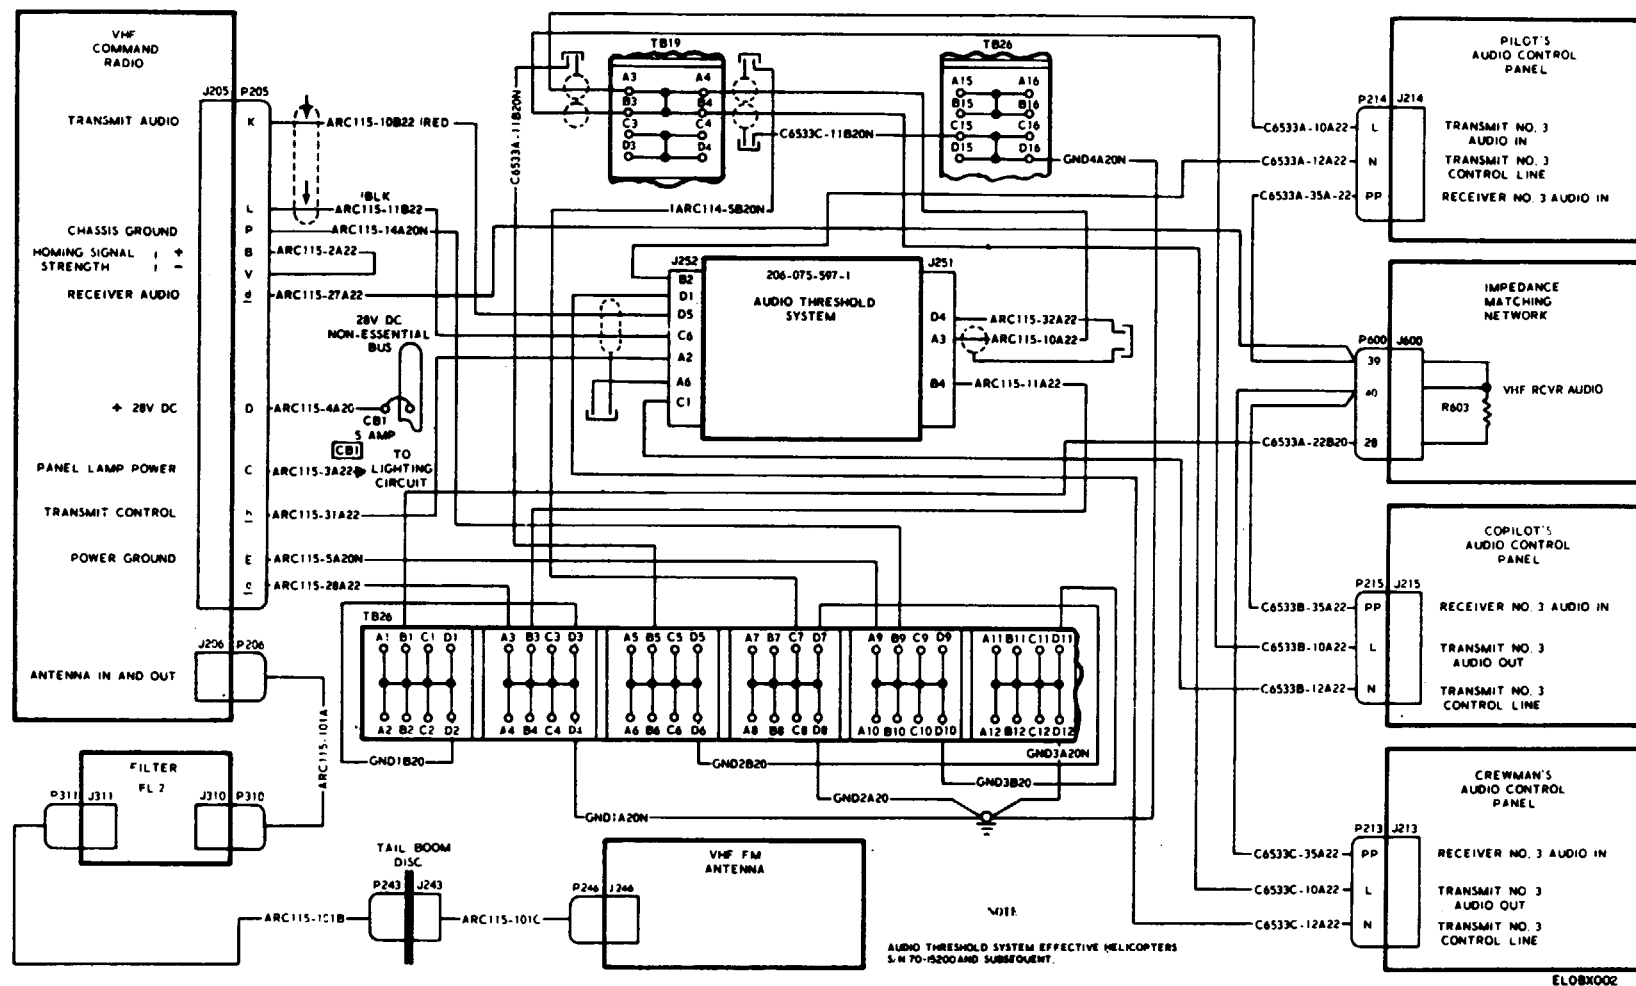

Figure 2-2. Vhf command facility interunit, schematic diagram.
c. Vhf Command Facility (fig. 2-2). The vhf command facility audio signals are routed from VHF command radio connector P205 pin D to impedance-matching network plug J600, pin 39. From impedance-matching network, the audio signals are distributed from J600, pin 39 to the pilot's audio control panel connector P214, pin PP, and from J600, pin 40, to copilot's and crew's audio control panel, connectors P215 and P213.
c. Vhf Command Facility (fig. 2-2). The vhf command facility transmit audio is routed from the pilot's audio control panel connector P214, pin L, to terminal A3 on TB19; from the copilot's audio control panel connector P215, pin L to terminal B3 on TB19; and from the crew's audio control panel connector P213, pin L, to terminal B4 on TB19. At TB19, A3, A4, B3, and B4 are combined, and transmit audio is routed from pin A4 to VHF command radio connector P205, pin K. On helicopters having audio threshold installed, transmit audio is routed from TB19, pin A4 to Audio Threshold System connector J251, pin A3. The audio is attenuated slightly in the Audio Threshold System and appears at connector J252 on pin D5. It is then routed to VHF command radio connector P205, pin K.
c. *Vhf Command Facility* (fig. 2-2). Rf signals from J246 on the VHF/FM antenna are routed through J243/P243 on the tailboom disk to J311 on filter FL2. Signals pass through the filter to connector J310, then to J206 (communications antenna) on the VHF command radio.